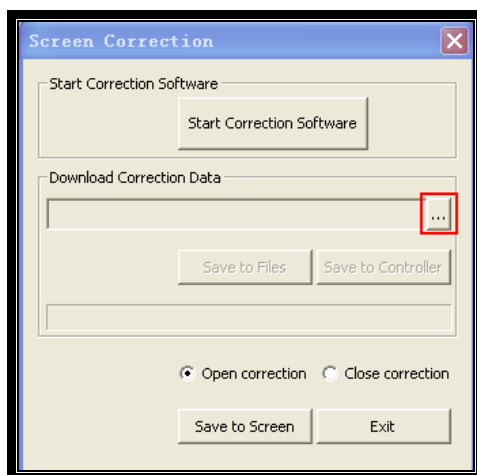

Fig.3-37
Step34: Close the window with the title of“Σ Colorbrate Charmer”, return to the Screen Correction window, as shown in fig.3-37, click the button with ‘...’button, and choose the “correction date” file which you saved.